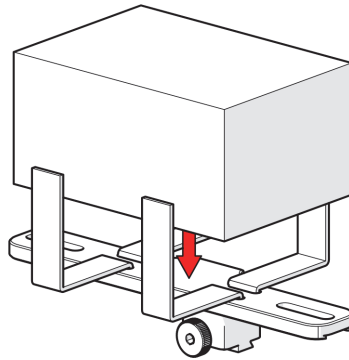

Figure 2-138 Pre-amp in the bracket and secure with straps
2. Place the pre-amp in the bracket, and secure it in place using the hook and loop straps (see Figure 2-138 on page 152).